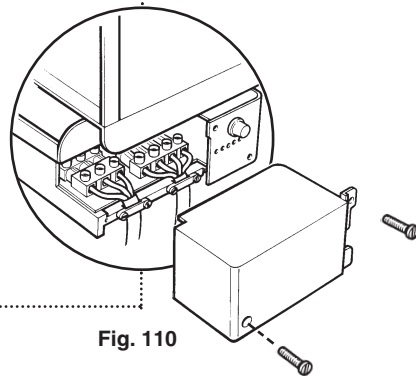

Fig. 110
2. Remove the cover from the front of the controls box (Fig. 110).